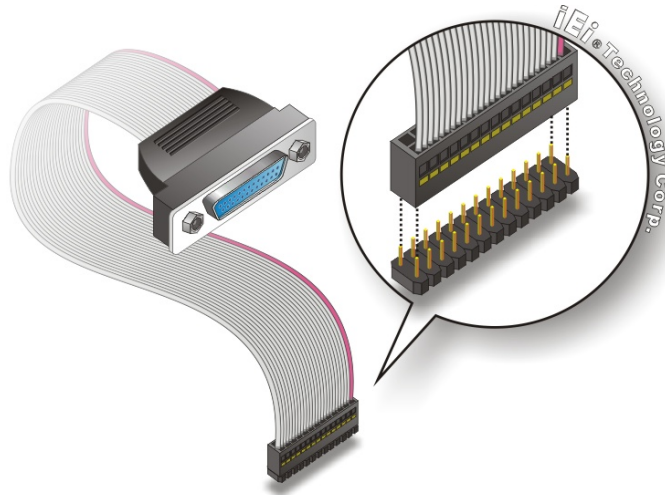

Figure 5-9: LPT Cable Connection
- Step 2:** **Align the connectors.** Correctly align pin 1 on the cable connector with pin 1 on the PCIE-9452 LPT box-header connector. See **Figure 5-9**.
- Step 3:** **Insert the cable connectors** Once the cable connector is properly aligned with the 26-pin box-header connector on the PCIE-9452, connect the cable connector to the onboard connector. See **Figure 5-9**.